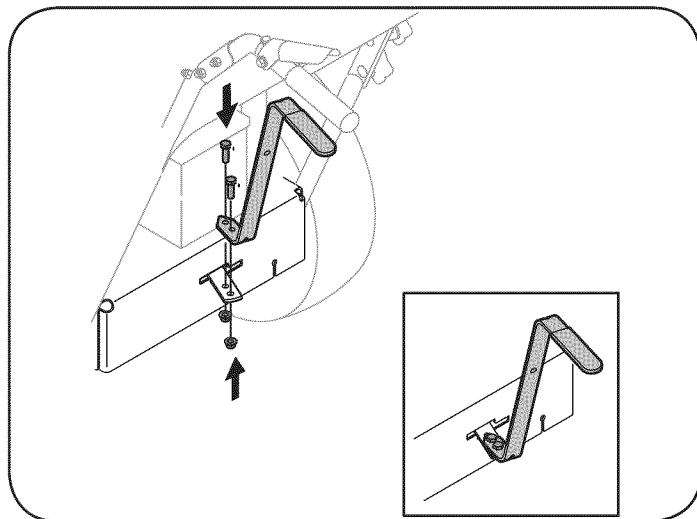

Figure 5
3. Position the upper shift lever into a vertical position aligning the holes in the lever to the holes in the shift plate, Figure 5.
4. Secure the lever to the plate using the two screws and two nuts removed earlier, Figure 5.